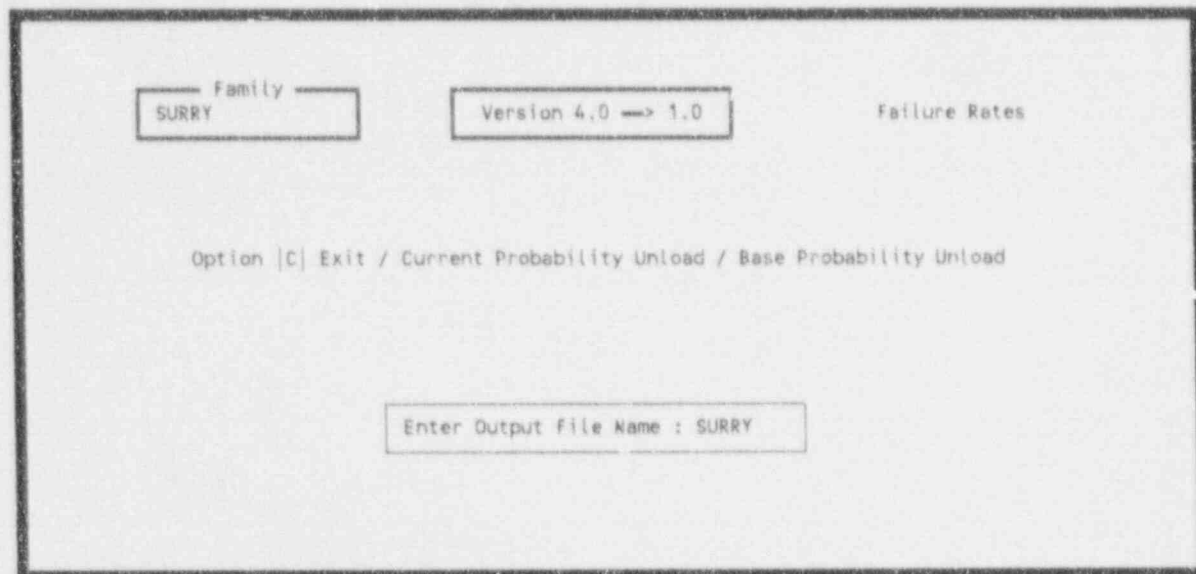

Figure 266. Current vs base probability values.
11.5.3.1 Failure Rates. This option allows you to output basic event failure rates generated in Version 4.0 to a Version 1.0 compatible format (as ".RAT" files). To invoke this option, type an <F> in the option field, or highlight "Failure Rates" and press <Enter> or <→>. Figure 266 will be displayed. On this screen, you have three options: Exit, Current Probability Unload, or Base Probability Unload.